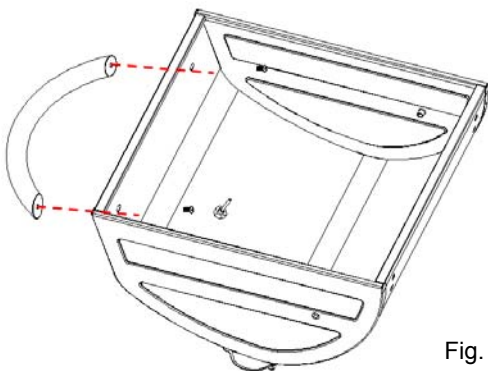

Fig. 20F
Attach (1) Lid Handle to the Charcoal Grill Lid using (2) M6x15 bolts as shown as Fig. 20F.